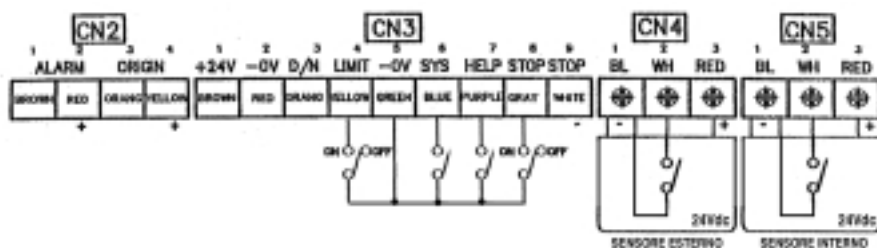

Fig6
- 6) For the other connections, refer to the diagram in fig. 6 and the JVOP-100 door programmer manual.